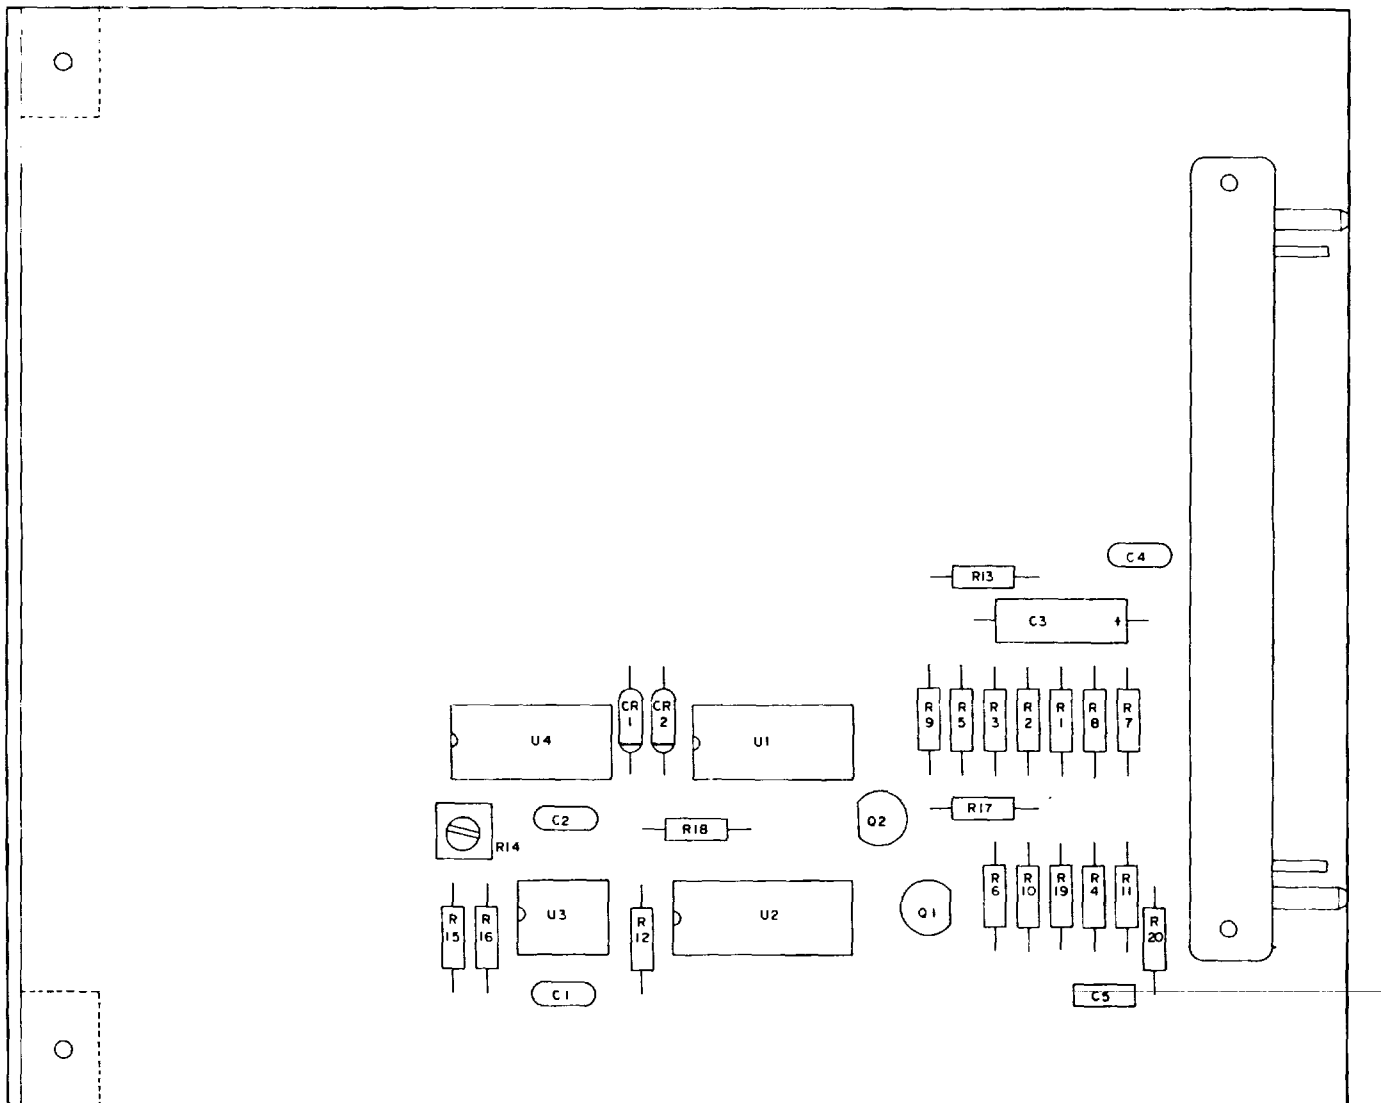

Figure 4-4. Ident Control Circuit Card Assembly, 1A2A3
d. Ident Control Circuit Card Assembly (1A2A3) Disassembly. This circuit card assembly should be removed only when servicing or component replacement is required. To remove this circuit card assembly, grasp both edges of the card and pull up. Further disassembly should be limited to removal of parts for repair or replacement. Refer to figure 4-4 for location of component to be replaced.